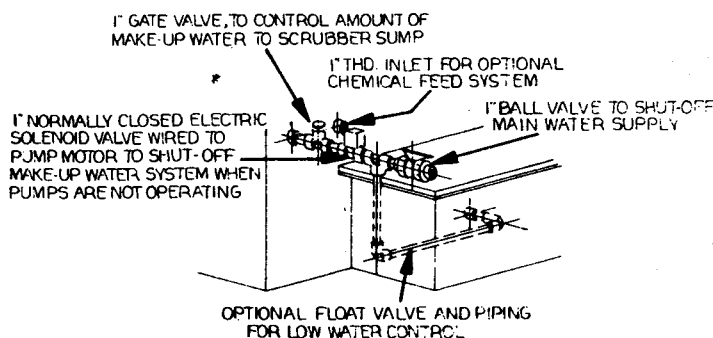

FIGURE 1 — MAKE-UP WATER PIPING
1. Install 1" water supply piping and valves per figure 1. If unit was ordered with float control valve, install piping per figure 1. Check with city code concerning installation or back-flow preventor.